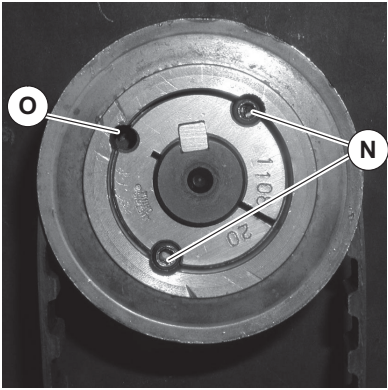

Figure 19
- b. Loosen taper set screws (Figure 19, item N) on the driven pulley. Remove one set screw and insert in open hole (O). Tighten until pulley slides off drive shaft.